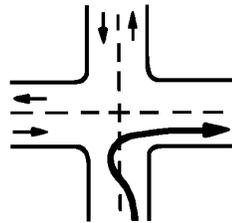

Figure 2-12:
- Don't turn wide to the left as you start the turn, as shown in Figure 2-12. A following driver may think you are turning left and try to pass you on the right. You may crash into the other vehicle as you complete your turn.